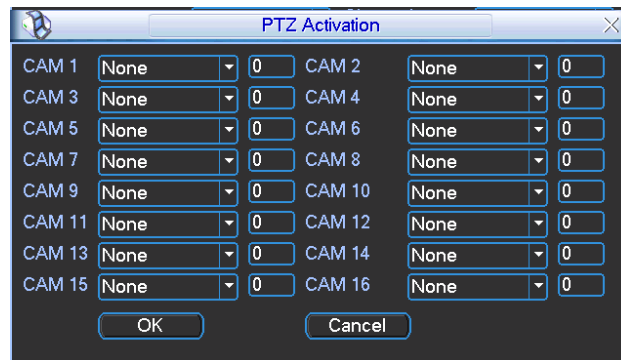

Figure 6-61
- PTZ activation: Here you can set PTZ movement when alarm occurs. Such as go to preset, tour & pattern when there is an alarm. Click “select” button, you can see an interface is shown as in _Figure 6-61.